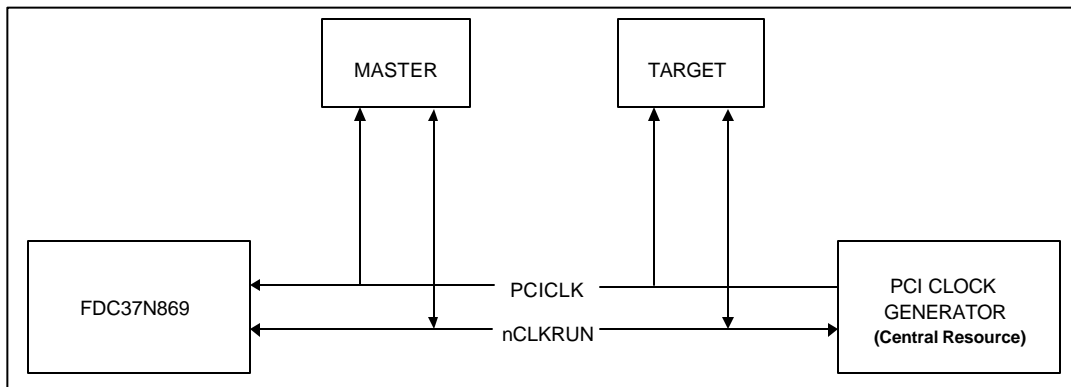
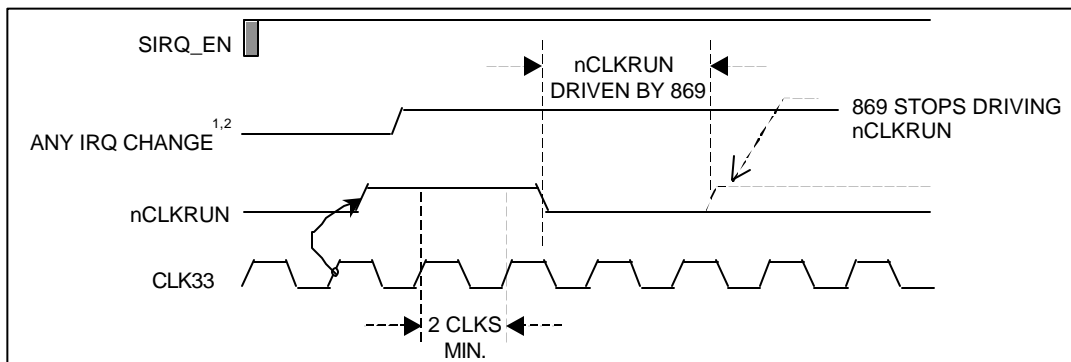

FIGURE 6 - nCLKRUN SYSTEM IMPLEMENTATION EXAMPLE
FIGURE 7 - CLOCK START ILLUSTRATION
The FDC37N869 supports the PCI nCLKRUN signal. nCLKRUN is used to indicate the PCI clock status as well as to request that a stopped clock be started. See Figure 6 for an example of a typical system implementation using nCLKRUN.
If nCLKRUN is sampled “high”, the PCI clock is stopped or stopping. If nCLKRUN is sampled “low”, the PCI clock is starting or started (running). If a device in the FDC37N869 asserts or de-asserts an interrupt and nCLKRUN is sample “high”, the FDC37N869 can request the restoration of the clock by asserting the nCLKRUN signal asynchronously (Table 74). The FDC37N869 holds nCLKRUN low until it detects two rising edges of the clock. After the second clock edge, the FDC37N869 must disable the open drain driver (Figure 7).
The FDC37N869 must not assert nCLKRUN if it is already driven low by the central resource; i.e., the PCI CLOCK GENERATOR in Figure 6. The FDC37N869 must not assert nCLKRUN unless the line has been deasserted for two successive clocks; i.e., before the clock was stopped (Figure 7).
- Note 2:** The FDC37N869 must continually monitor the state of nCLKRUN to maintain the PCI Clock until an active “ANY IRQ CHANGE” condition has been transferred to the host in a Serial IRQ cycle. For example, if “ANY IRQ CHANGE” is asserted before nCLKRUN is de-asserted (not shown in Figure 7), the FDC37N869 must assert nCLKRUN as needed until the Serial IRQ cycle has completed.